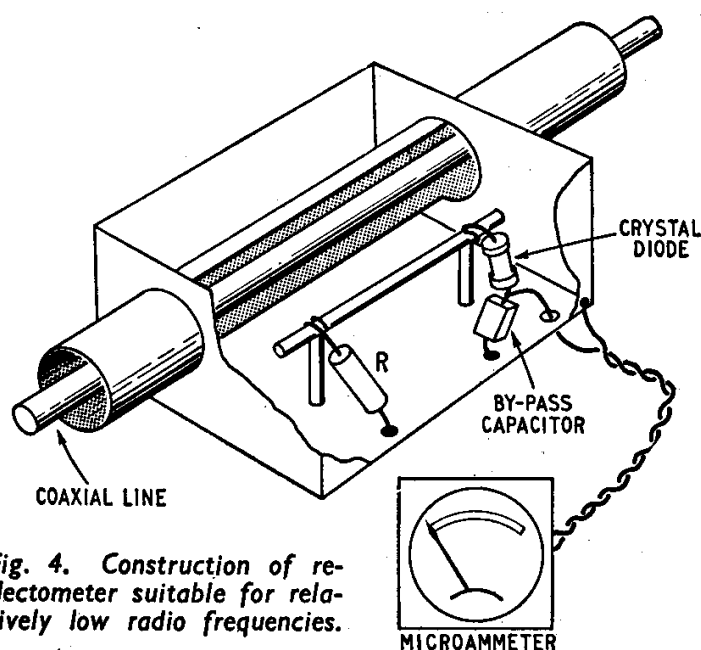

Fig. 4. Construction of reflectometer suitable for relatively low radio frequencies.
Fig. 4 shows a practical design for 4 to 15 MHz, described by O. Norgorden in U. S. Naval Research Laboratory Report No. 3538 of 1949. The coaxial line has half of the outer conductor cut away for a distance which is a small fraction of the wavelength. The screening is maintained by a surrounding metal box, inside which is installed the pick-up unit shown, differing from Fig. 3 only in C being distributed over the whole length of the conductor, and the addition of a crystal diode and microammeter as an indicator. R is of the order of 100 Ohms, and the resistance R_m of the meter is chosen to give it a suitable range in relation to the r.f. power used. For purposes of analysis the distributed capacitance between pick-up and inner conductor is assumed to be concen-
to the current in the line (1) and therefore to the square root of the r.f. power. (There is, of course, mutual inductance between the pick-up and outer conductor, so M is really the coupling to the inner conductor minus that to the outer.) The type of instrument shown in Fig. 4 is reasonably well covered by (6) if $C_1 = C_2$ and $C_1 + C_2 = C_3$ simplifying it to